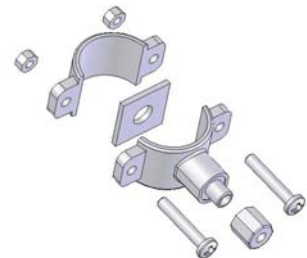

Fig. 3
1. Position drain saddle assembly (Fig. 3) on drain pipe under sink between the P trap and the sink connection.